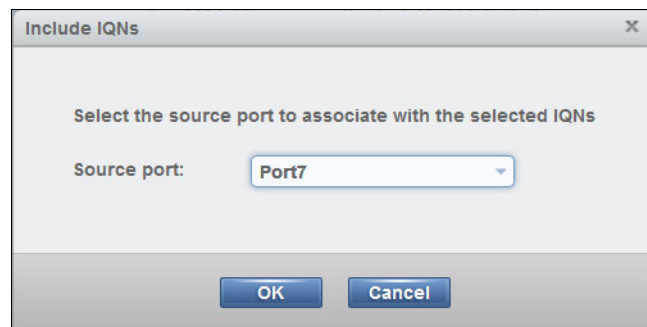

Figure 14-30 Port selection window for back-end LUN connectivity
8. After you click **Include**, click the drop-down list to select the source port from which you want to connect the target LUN and click **OK**. Figure 14-30 shows the selected port to connect the back-end LUN from where the back end is discovered.